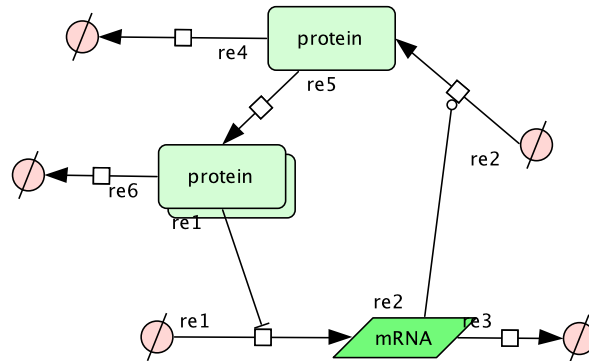

Figure 6: Negative feedback loop with mRNA transcription repressed by protein dimers.
- Using your implementation of the previous model (or “NegativeFeedback.xml”) as a basis, construct and simulate this dimerisation model in CellDesigner. You will need to add a “Homodimer formation” reaction, which is in the toolbar (just to the left of “Degradation”). Then delete the repression of transcription by protein, and replace it with repression by the dimer. Also add degradation of the dimer and the new parameters. You will need to add KineticLaws for dimerisation ( $k_D * s_3 * s_3$ ), repression by dimers ( $k_1 * p_0^n / (p_0^n + s_9^n)$ ), and dimer degradation ( $d_3 * s_9$ ). Your network should look something like that in Figure 6.